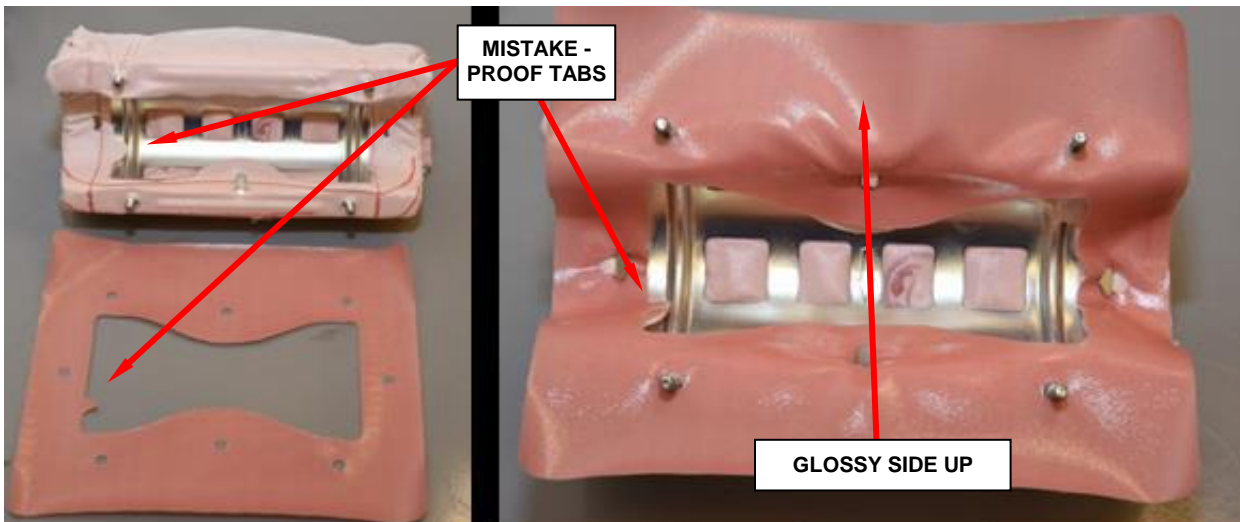

Figure 65 – Fabric Gasket to Cushion
- i. Place the fabric gasket, glossy side up, onto cushion. Mistake-proof tab should be aligned to the tab on the cushion (Figure 65).